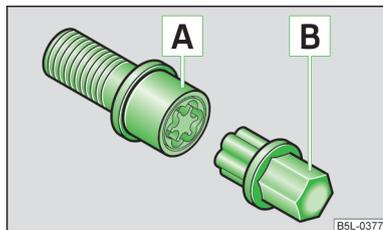

Fig. 151
The anti-theft wheel bolts protect the wheels from theft. These can only be loosened or tightened with the use of adapter **B**» Fig. 151.
- Insert adapter **B**» Fig. 151 with the toothed side all the way into the inner teeth in the head of the anti-theft wheel bolts **A**.